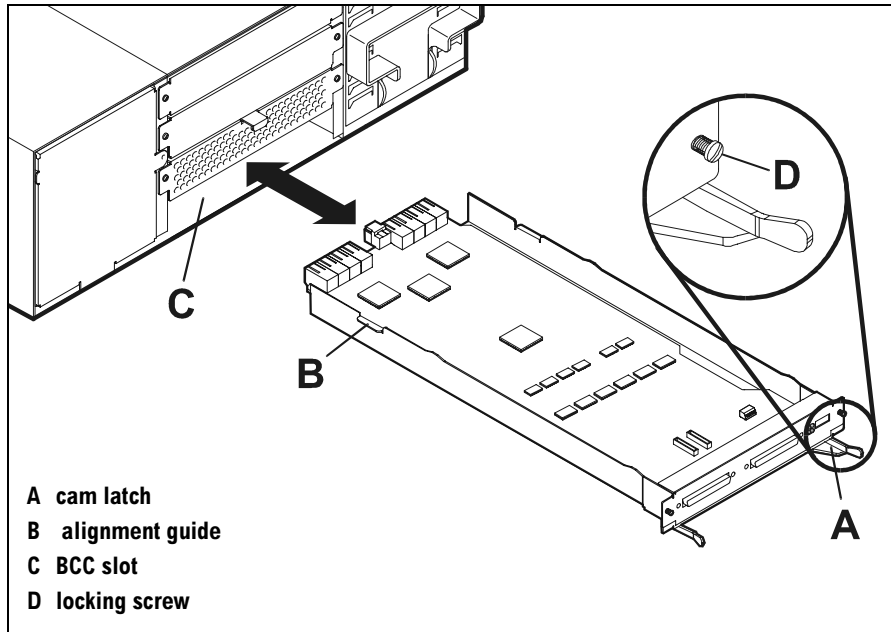

Figure 32 Installing the Bus Control Card
- Open the BCC cam latches (A in Figure 32) by pulling them away from the center of the BCC bulkhead.